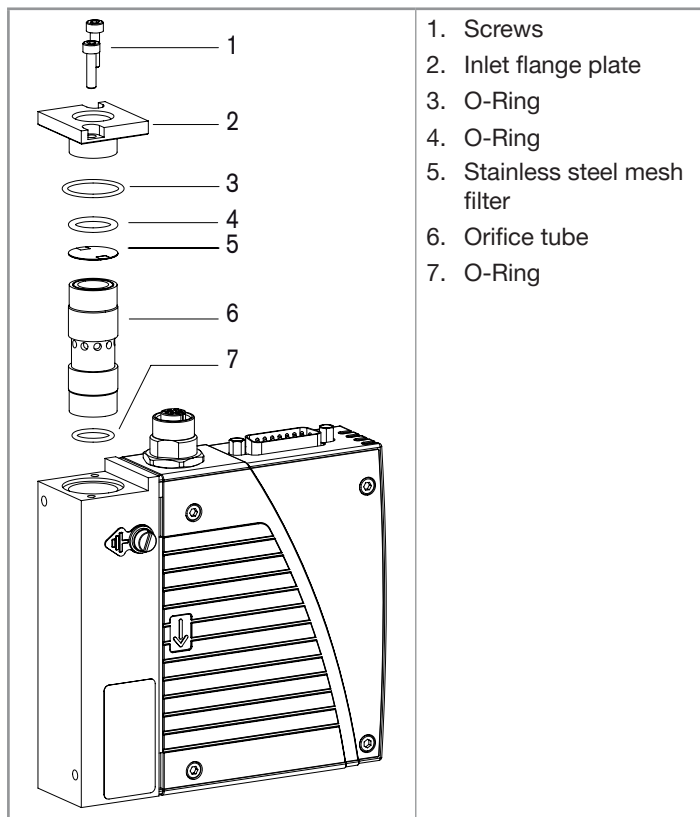

Fig. 11: Maintenance, Cleaning
- To gain access to the stainless steel mesh filter disc [5], detach the input flange plate [2] (see Fig. 11).
- Re-insert parts in the correct sequence and position (see Fig. 11). The fine mesh of the filter disc [5] must face the input flange plate [2].